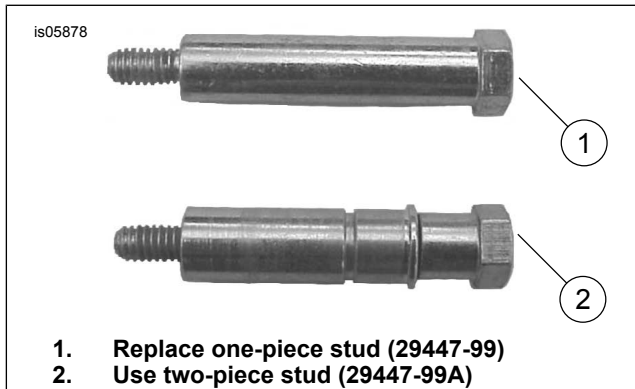

Figure 2. Use Two-Piece Studs
See Figure 2. If the Screamin' Eagle® High Flow Air Cleaner Kit came with one-piece mounting studs (1), they must be replaced with new two-piece studs (2). These studs are available from a Harley-Davidson dealer.
2. See Figure 2. If the Screamin' Eagle High Flow Air Cleaner came with one-piece studs, remove the filter element and studs. Replace with new two-piece studs (29447-99A), purchased separately.
3. **For Twin Cam Engines:** Apply a few drops of Loctite 243 to the threads of the the air cleaner cover screw (2) and install the screw through the hole in the air cleaner cover (1), and secure the cover to the air cleaner. Tighten the screw to 4–7 N·m (3–5 ft-lbs).
4. **For Evolution Engines:** Apply a few drops of Loctite 243 to the threads of the the air cleaner cover screw (2) and install the screw through the center hole in the air cleaner cover (1). Install the spacer (3) between the cover and air cleaner, and secure the cover to the air cleaner. Tighten the screw to 4–7 N·m (3–5 ft-lbs).
5. Install the air cleaner center medallion (A) as described in the instructions provided with that kit.
6. Use isopropyl alcohol to thoroughly clean the surfaces of the wing areas of the new air cleaner cover where the side inserts (4 and 5) will be installed, and the top surface of the cover where the label (6) will be affixed. Allow the cleaned areas to dry thoroughly.
7. Facing the air cleaner cover from the right side of the vehicle, remove the adhesive backing from the left side insert (4) and carefully position it to the air cleaner cover. Apply pressure to the insert for one minute.